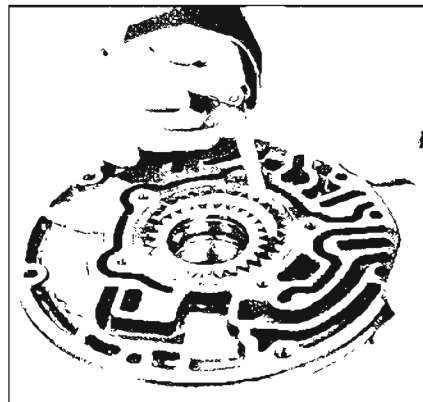

Figure 5-587
a. Driven gear O.D. to body clearance. Clearance should be .0045"-.0011". See Figure 5-587.